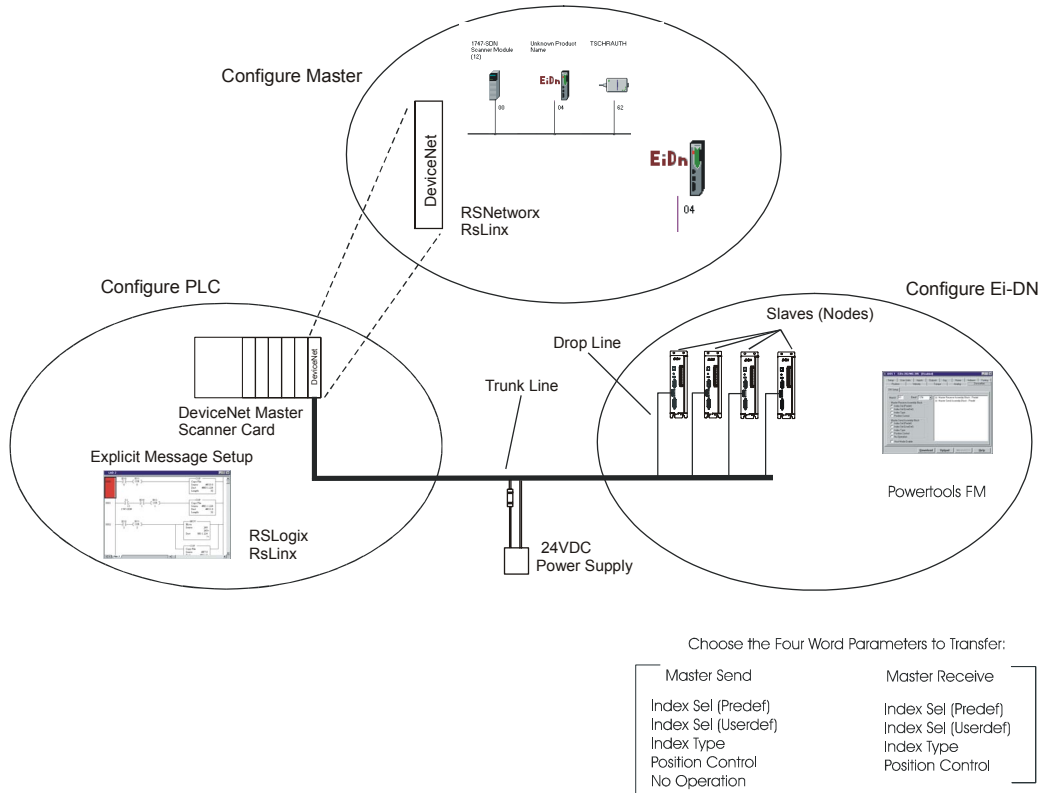

Figure 2: Master/Slave Relationship
1. Trunk-line/drop-line configuration (See Figure 2, "Master/Slave Relationship" on page 4.)